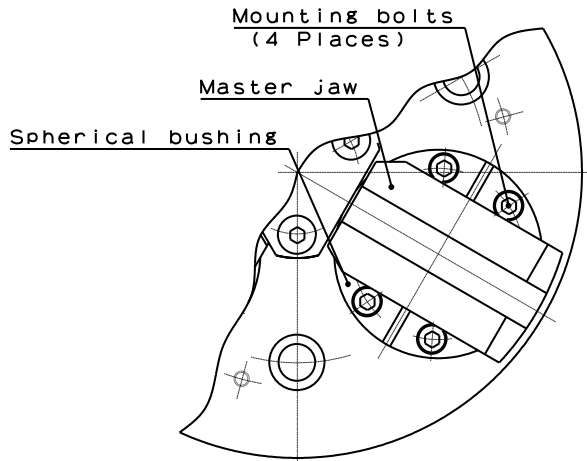

Fig.4-2
- ① Remove the jaw and T-nut.
- ② Remove the locator and other jigs from the chuck surface.
- ③ Remove the mounting bolts of spherical bushing surface. (See Fig.4-2)